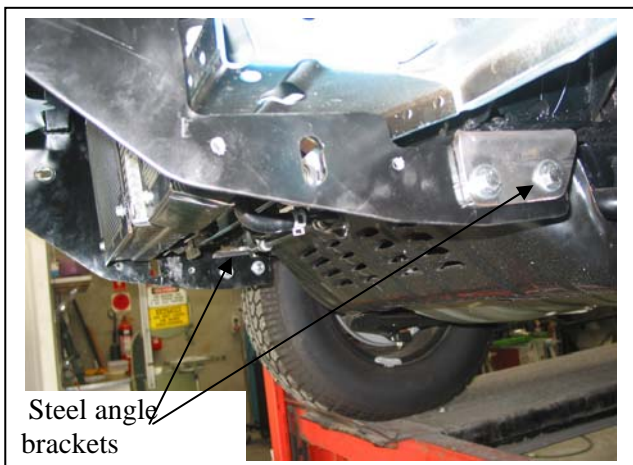

Figure 3
6. Attach ECB steel angle bracket (supplied) to tie down hook encapsulated nuts, angle leg to outside of vehicle. Use two M12 x 1.5 x 35mm bolts, flat and spring washers (supplied) on underside of chassis. **FINGER TIGHTEN ONLY. See figure 3.**